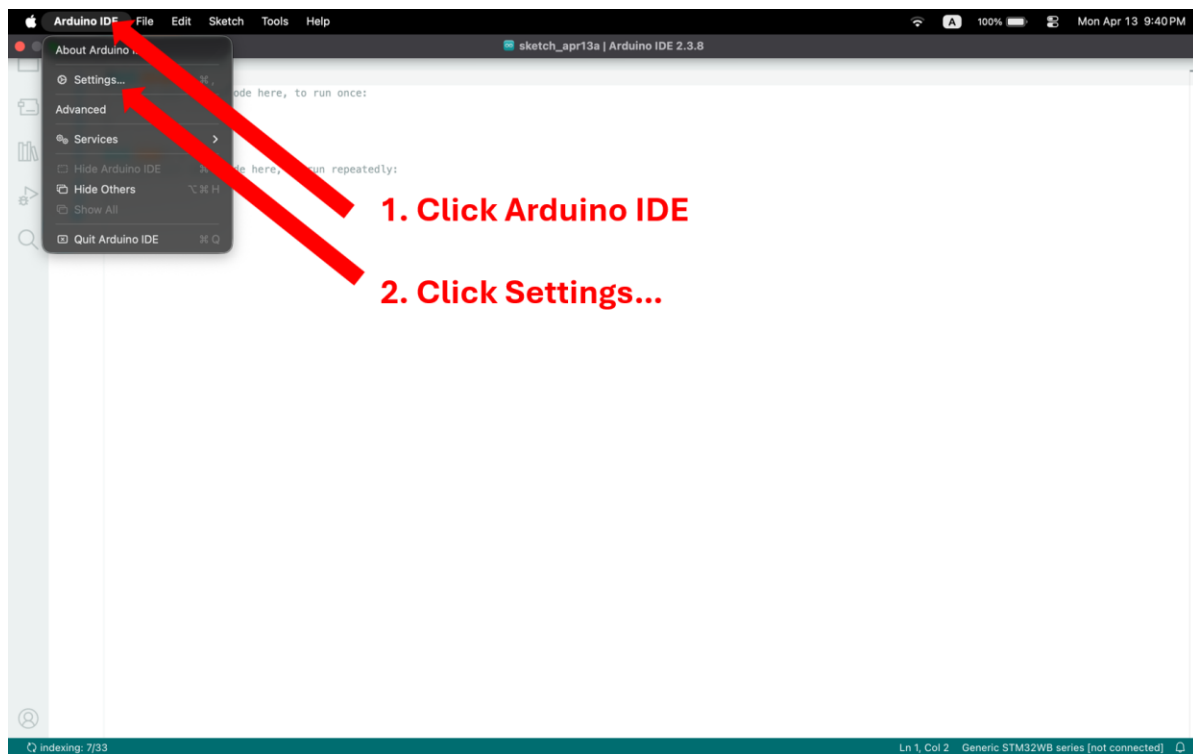

Figure 10
5. If you are using a macOS computer, go to Arduino IDE -> Settings... by following the instructions in Figure 10.